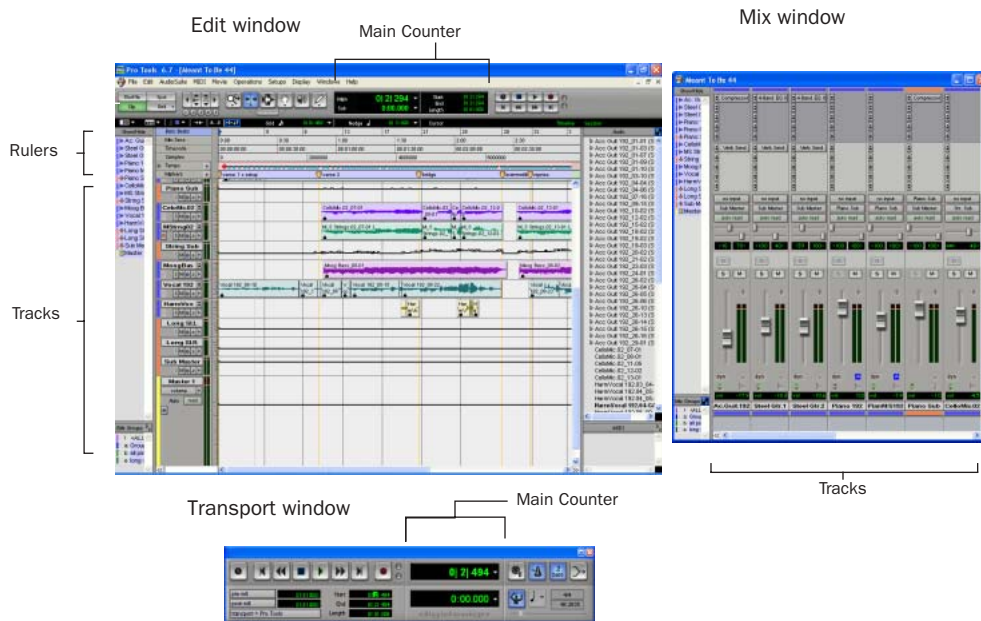

Figure 5. Main session windows
- 6 Click Save. The new session opens its Mix, Edit, and Transport windows (see Figure 5 on page 36).